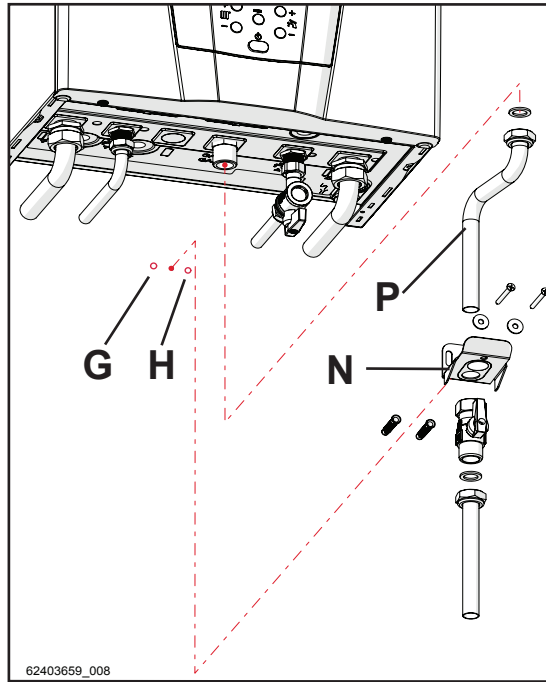

Figure 5-39
- 6 - Fasten fixing bracket "N" to the wall, insert gas pipe "P" inside it and connect the various components as shown in figures 5-39 and 5-40;